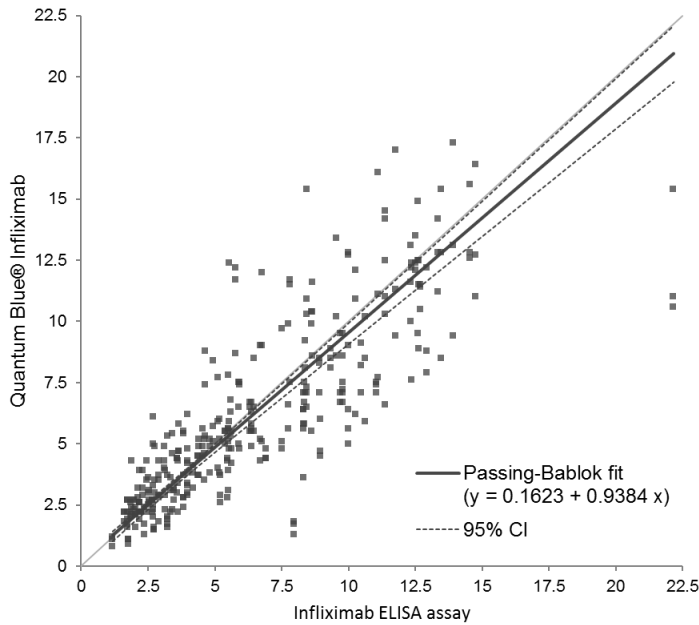

Figure 2
The method comparison study was performed according to the CLSI guideline EP09-A3. One hundred and ten (110) samples were measured in triplicate with the Quantum Blue® Infiximab test, resulting in 330 values, and with a commercially available infiximab ELISA test (ref. 8). Measurements were performed over three days using two Quantum Blue® Infiximab test cassette lots. The results are summarized in figure 2.